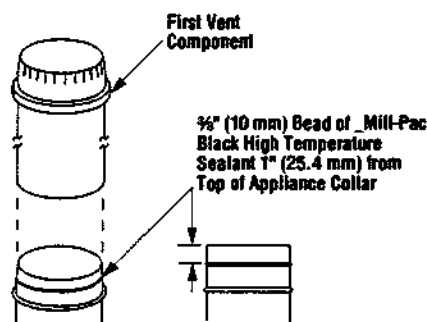

Figure 18
**WARNING: A 3/8" (10 mm) BEAD OF \_MILL-PAC BLACK (700°F) HIGH TEMPERATURE SEALANT MUST BE APPLIED TO THE INNER APPLIANCE COLLAR BEFORE THE FIRST VENT COMPONENT IS ATTACHED (FIGURE 18) AND TO ALL SUBSEQUENT INNER VENT CONNECTIONS. FAILURE TO SEAL ALL THE INNER JOINTS WITH THIS HIGH TEMPERATURE SEALANT MAY CAUSE THE APPLIANCE TO OPERATE IMPROPERLY.**
**WARNING: A  $\frac{3}{8}$ " (10 mm) BEAD OF MILL-PAC BLACK (700°F) HIGH TEMPERATURE SEALANT MUST BE APPLIED TO THE INNER APPLIANCE COLLAR BEFORE THE FIRST VENT COMPONENT IS ATTACHED (FIGURE 18) AND TO ALL SUBSEQUENT INNER VENT CONNECTIONS. FAILURE TO SEAL ALL THE INNER JOINTS WITH THIS HIGH TEMPERATURE SEALANT MAY CAUSE THE APPLIANCE TO OPERATE IMPROPERLY.**